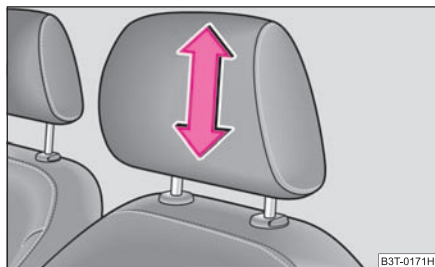

Fig. 65 Adjusting head restraint
- Grasp the side of the head restraint with both hands and pull in upward direction as desired ⇒ fig. 65.